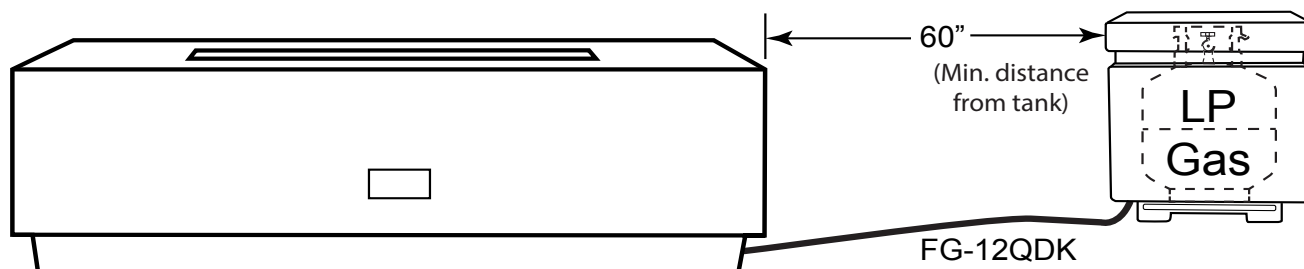

Fig. 4 Shows gas line using an LP quick disconnect.
Each fire feature can be installed on outdoor level flat, stable, non-combustible surface away from any combustible materials. **NOTE:** Do not place fire feature directly on grass, dirt, or rocks as this may prevent proper ventilation (Fig. 4). Water drainage is designed into all Sanctuary Series fire features. **Ensure not to block/plug the drains areas to prevent potential damage to your fire feature.**
1. Do not place an LP tank inside any fire feature enclosure. Locate all propane (LP) tanks outside the enclosure inside an approved separate enclosure a minimum of 60" from the Sanctuary 1. Flex line can run through any vent holes.
2. If using Propane gas an FG-LPRK regulator (not included) must be used and a FG-12QDK-2 quick disconnect kit (not supplied) enables the use of a Propane (LP) gas tank connection. See Fig. 4.